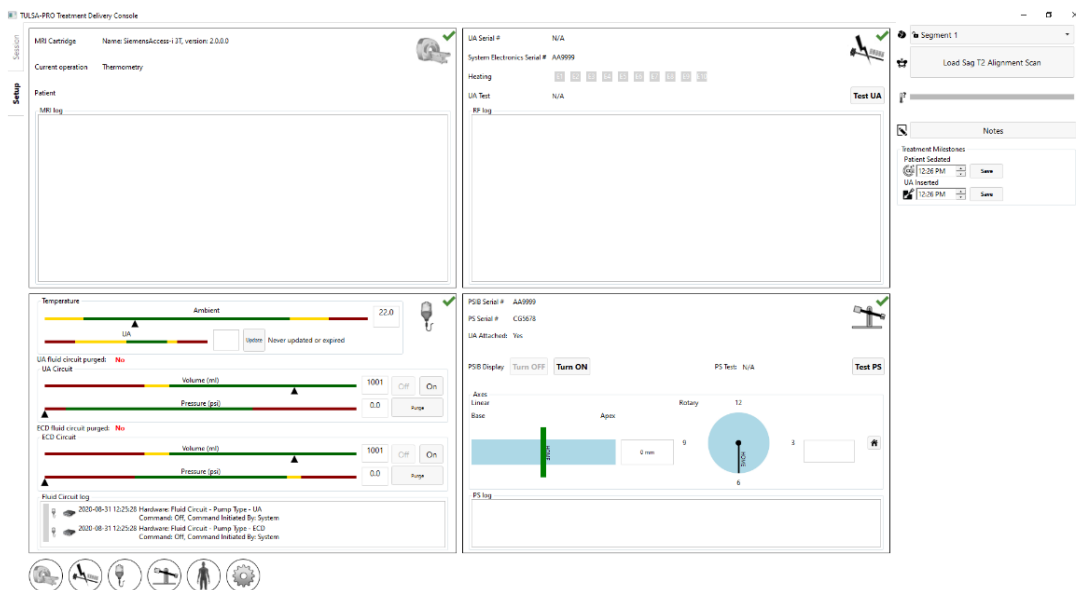

Figure 6: Setup workspace of the TDC software
2. After selecting **New Session**, you will enter the **Setup** Workspace (Figure 6) where you can ensure all equipment is functioning properly before proceeding.